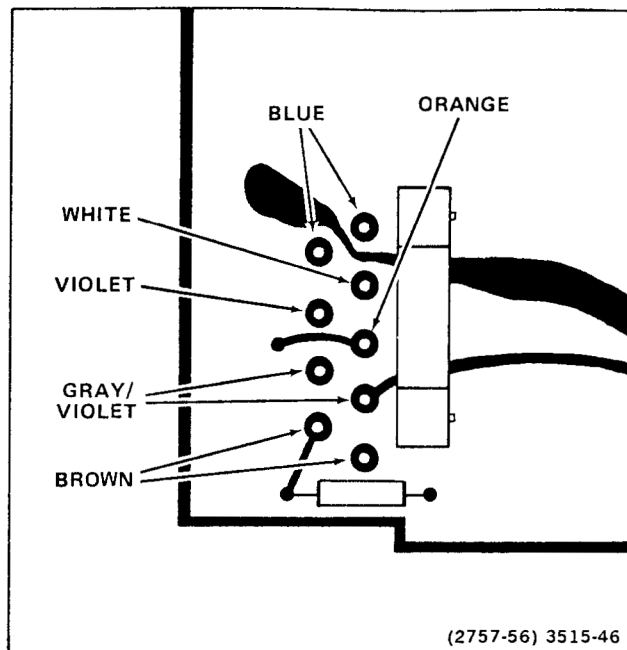

Figure 5-5. Location and color of the power transformer main power supply secondary leads.
22. Unsolder the power transformer wires from the Interface circuit board. Confirm the color code and location of each wire (see Figure 5-5) for reinstallation reference.
25. Resolder the power transformer wires (disconnected in step 22), referring to Figure 5-5 for their colors and locations.